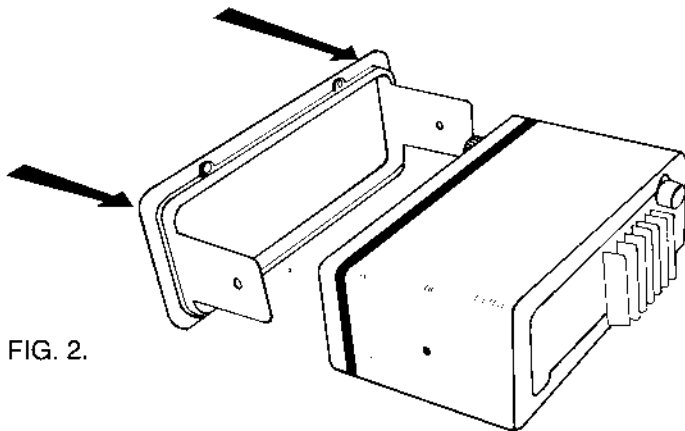

FIG. 2.
2. Slide the radio, front panel first, into the flush mounting escutcheon supplied from behind, and line up the mounting holes in the side plates. Remove the two screws from the rear of the GX558. (Fig. 2)